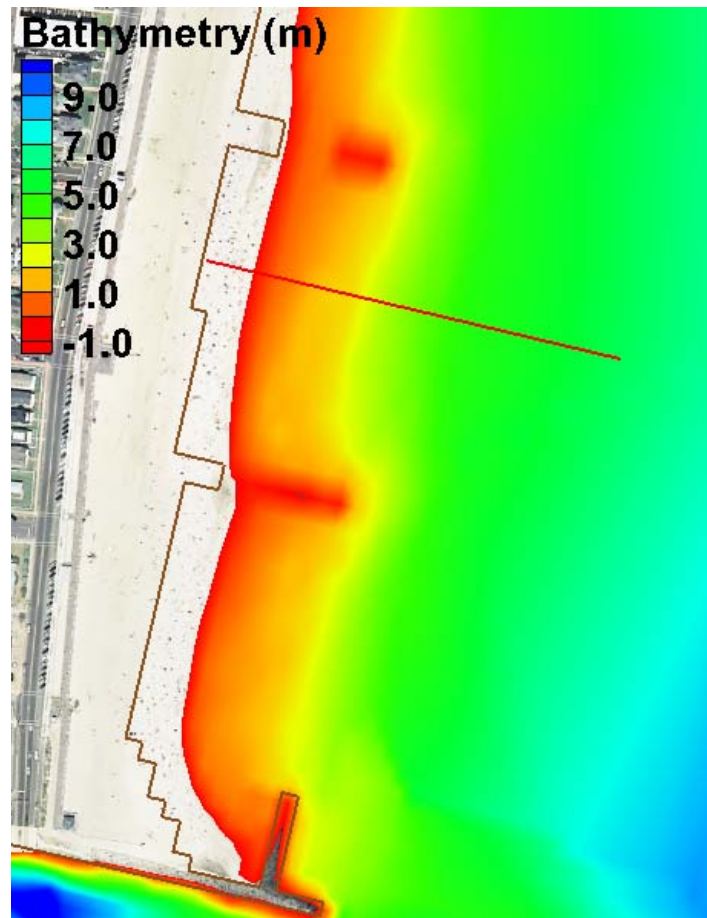

Figure 8.3.2. Example of a *Feature Arc* for calculating sediment transport.
3. Zoom to the location selected for calculating sediment transport (Example of a cross-shore location shown in Figure 8.3.2) and draw the arc using on the *Create Feature Arc* tool . Selecting the *Select Feature Point*  tool will allow modification of the end points of the arc; or the arc can be deleted by selecting with the *Select Feature Arc*  tool